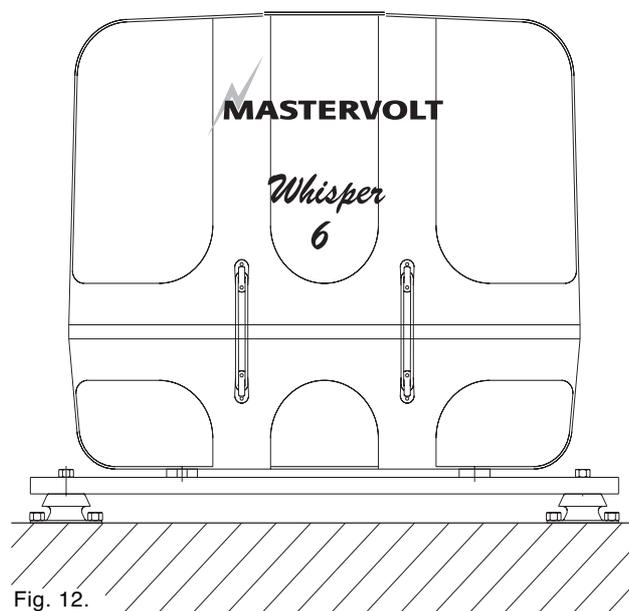

Fig. 12.
- 1 Install a steel foundation plate between ship's hull and generating set, with 4 shock mounts (ref. to fig. 12) 'foundation plate'(optional for Whisper 6 / 8).